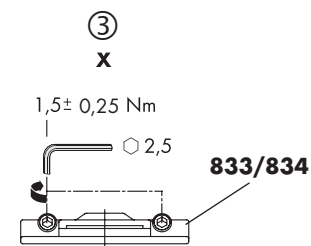

Fig. 3
- ③ Insert top hinge block (**833/834**) into the frame groove and position according to measurements (see Fig. 1) and clamp using grub screws without any ends protruding (see Fig. 3) (torque 1.5 ± 0.25 Nm).